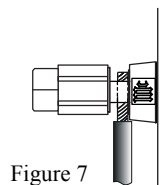

Figure 7
8. Connect the Loudspeaker hookup cables to the MC152 Negative Output Terminal and Positive Output Terminal identified as 2Ω (ohms), 4Ω (ohms) or 8Ω (ohms) connection to match the impedance of the Loudspeaker, being careful to observe the correct polarities. Insert the spade lug connector or prepared section of the cable end into the terminal side access hole, and tighten the terminal cap until the cable is firmly clamped into the terminals so the lugs or wire cannot slip out. Refer to figures 7 and 8.
terminal cap until the cable is firmly clamped into the terminals so the lugs or wire cannot slip out. Refer to figures 7 and 8.